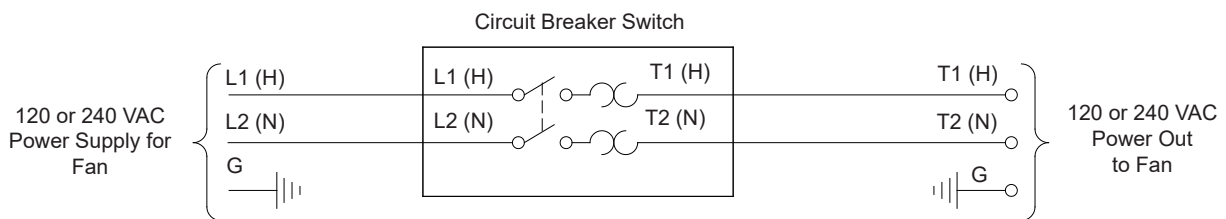

Figure 16A
**Single Phase Fans:** motor overload protection should be provided for each fan. A Circuit Breaker Switch or slow blow motor type fuses must be used, *See Figure 16A. See form QM1400 for proper size.*